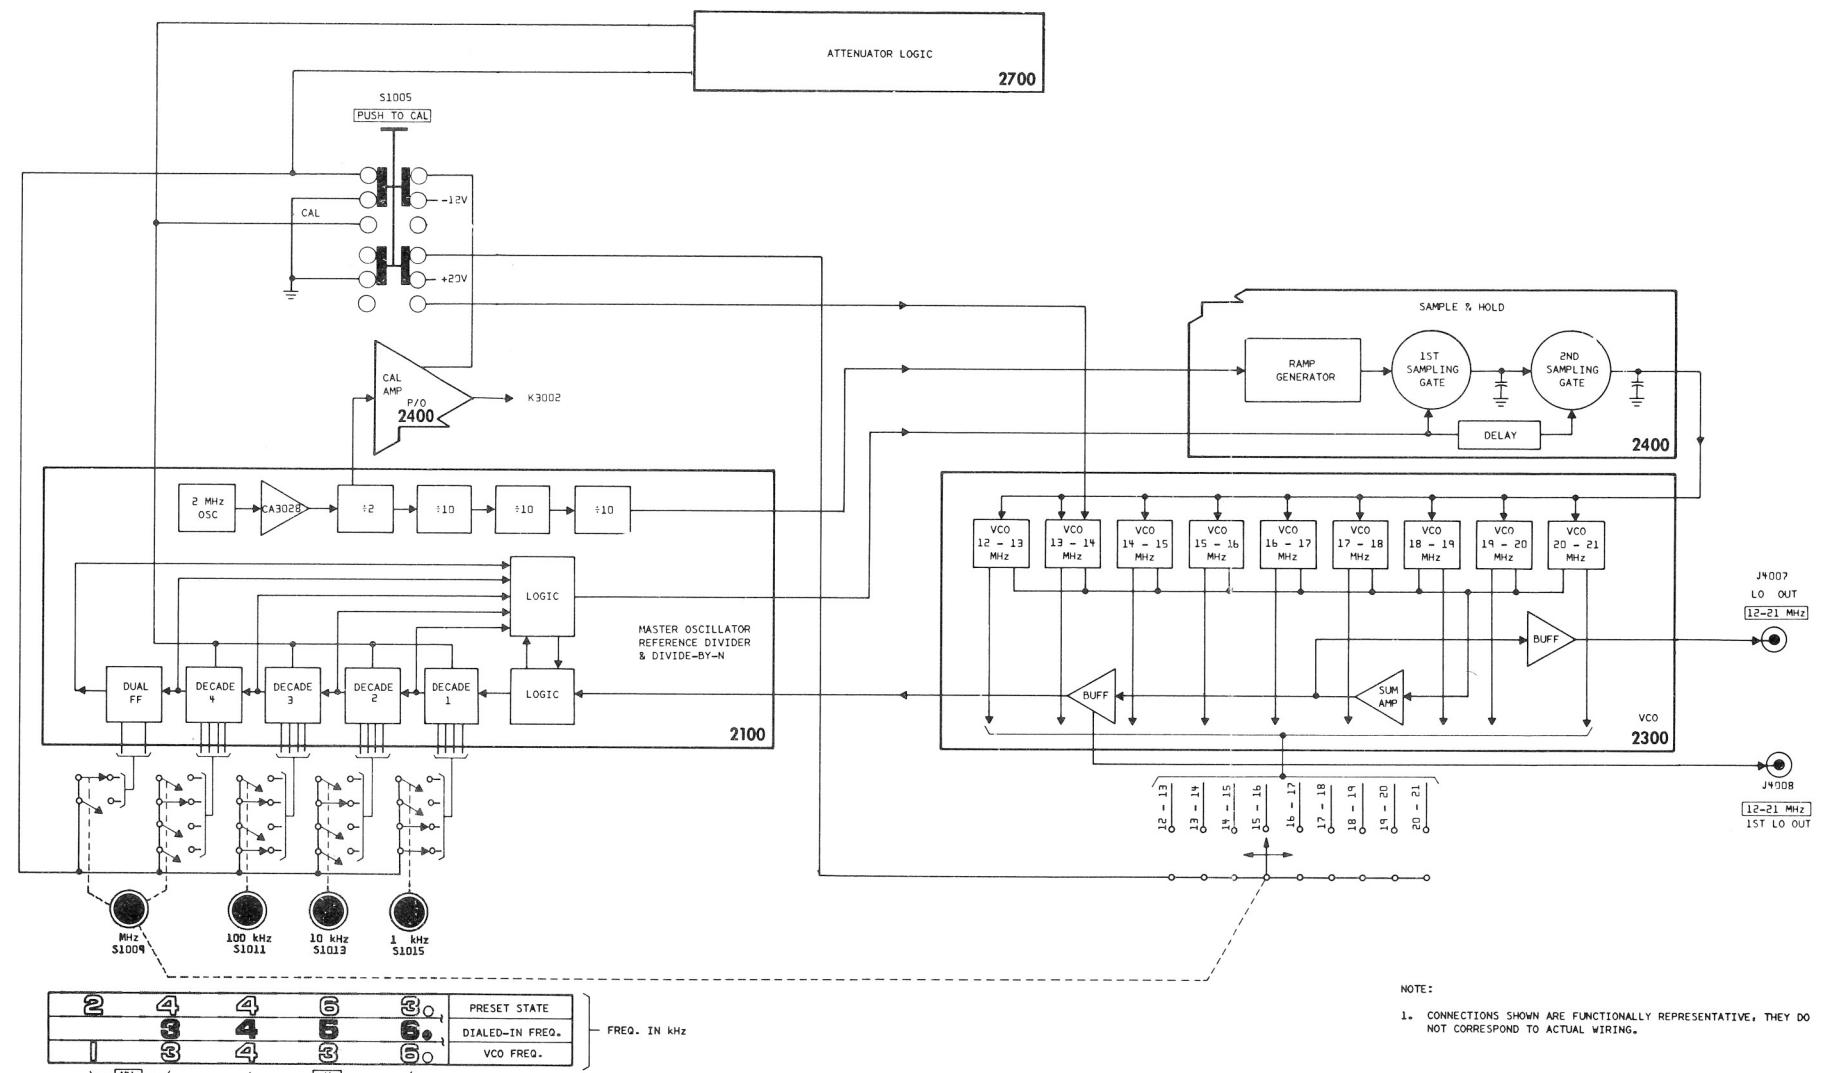

Figure 4-2 Frequency Synthesizer, Block Diagram
In normal operation, the frequency synthesizer is a phase-locked-loop that is used to generate the first local oscillator (1st LO) signal. The frequency synthesizer consists of a master oscillator (MO), a voltage controlled oscillator (VCO), a divide-by-N counter ($\div N$), and various detectors, sampling circuits, dividers, and multipliers. These components are carried on boards 2100, 2300, and 2400. Figure 4-2 provides a block diagram of the frequency synthesizer. A small part of the frequency synthesizer is used when the CE-21 is calibrated.